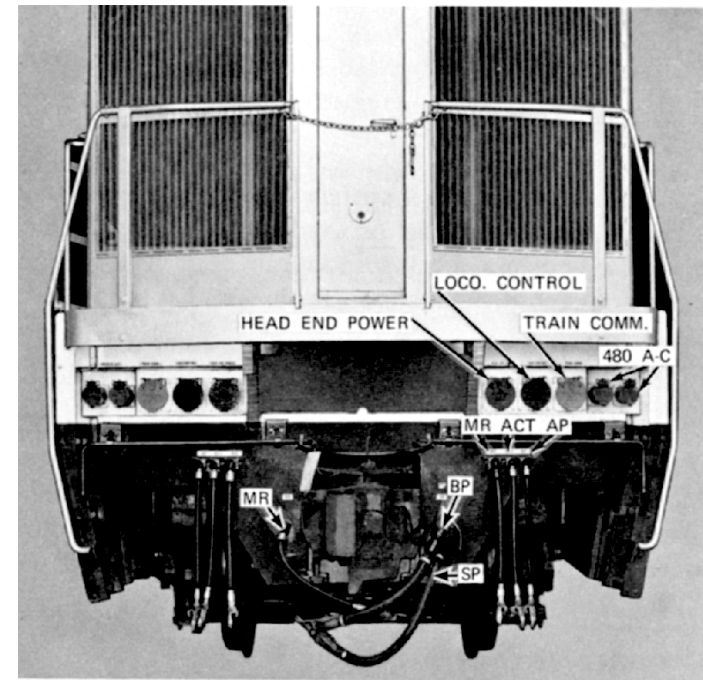

FIG. 6. LOCOMOTIVE END CONNECTIONS.
10. Cut-Out Cocks at Each End of Locomotive (see Fig. 6):